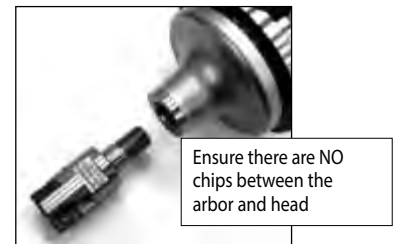

Fig. 1
1. When clamping the head on the arbor, make sure there is no dust or chips inside (Fig. 1).
2. Attach the screw (magnetic head) to the front end of the wrench. While lightly pressing the insert against the constraint surfaces, put the screw into the hole of the insert and tighten. (Ref. to Fig. 1)